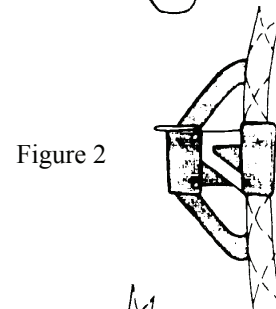

Figure 2
2. Your rope slips in here (See figure 2).